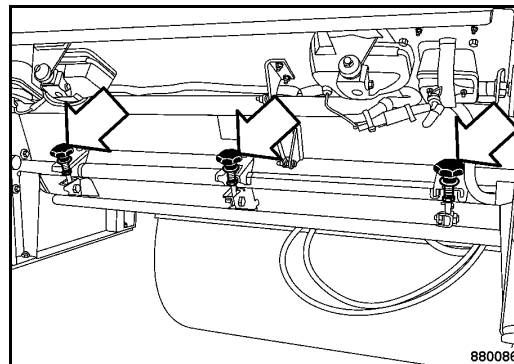

Fig. 97
- Loosen the star knobs (Fig. 97) , fold down the spreading screed and allow the chipping to trickle out.